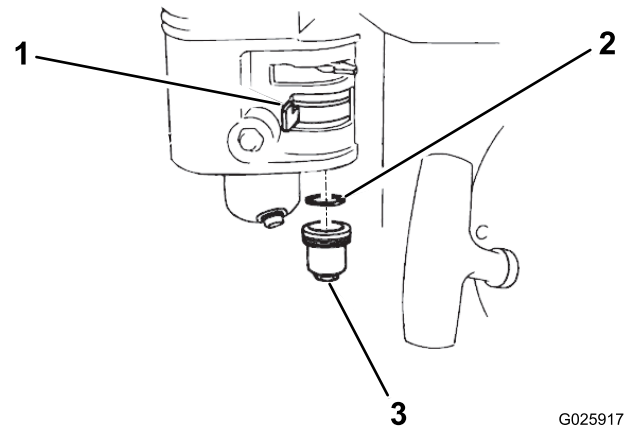

Figure 35
1. Move the fuel valve to the OFF position, then remove the fuel sediment cup and O-ring (Figure 35).